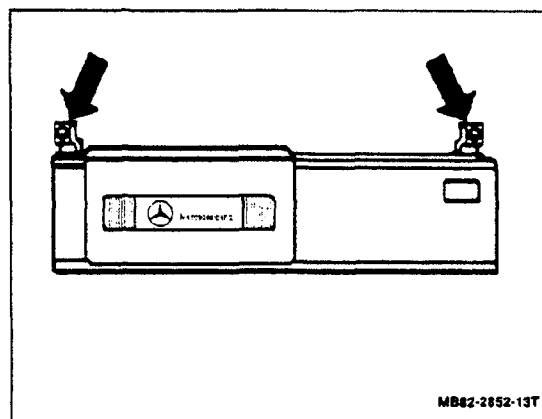

Figure 2
3. Install side brackets on top of CD changer unit with the mounting holes of the brackets facing out (Fig. 2). Secure with two M4x6 bolts.